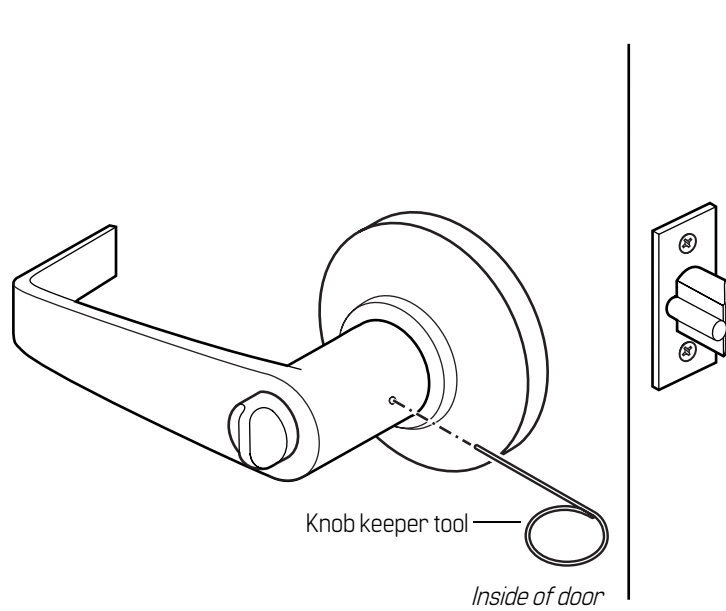

**Figure 3.1** Removing the keyed lever
4. Press the screwdriver blade in the direction of the arrow in Figure 3.1.